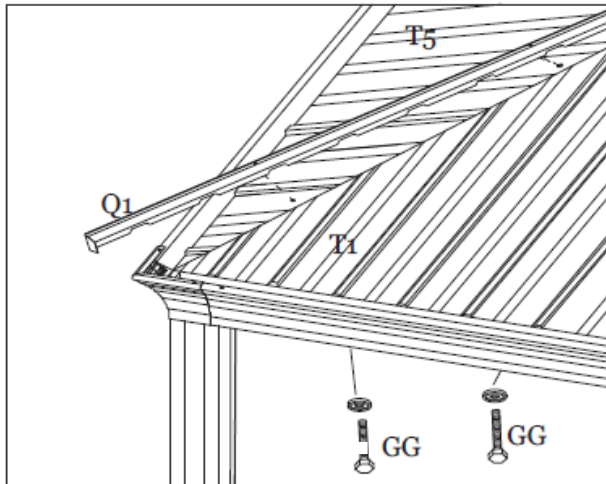
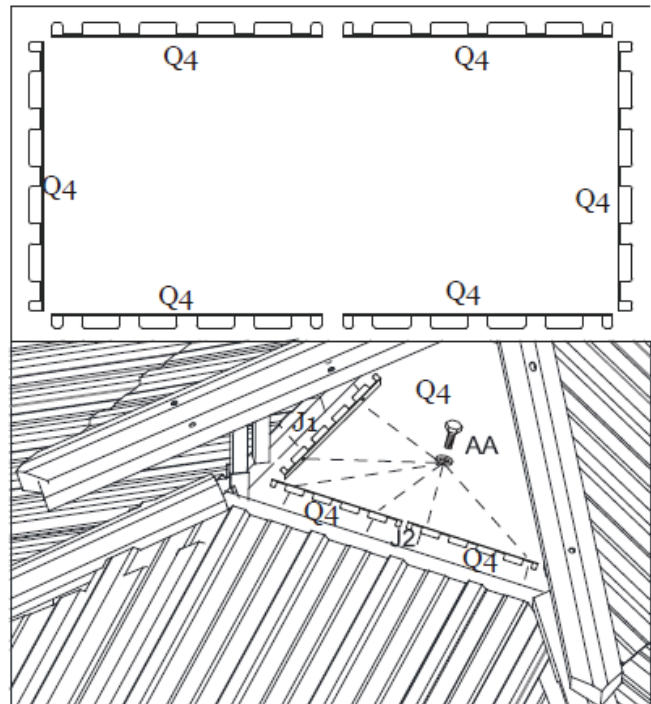
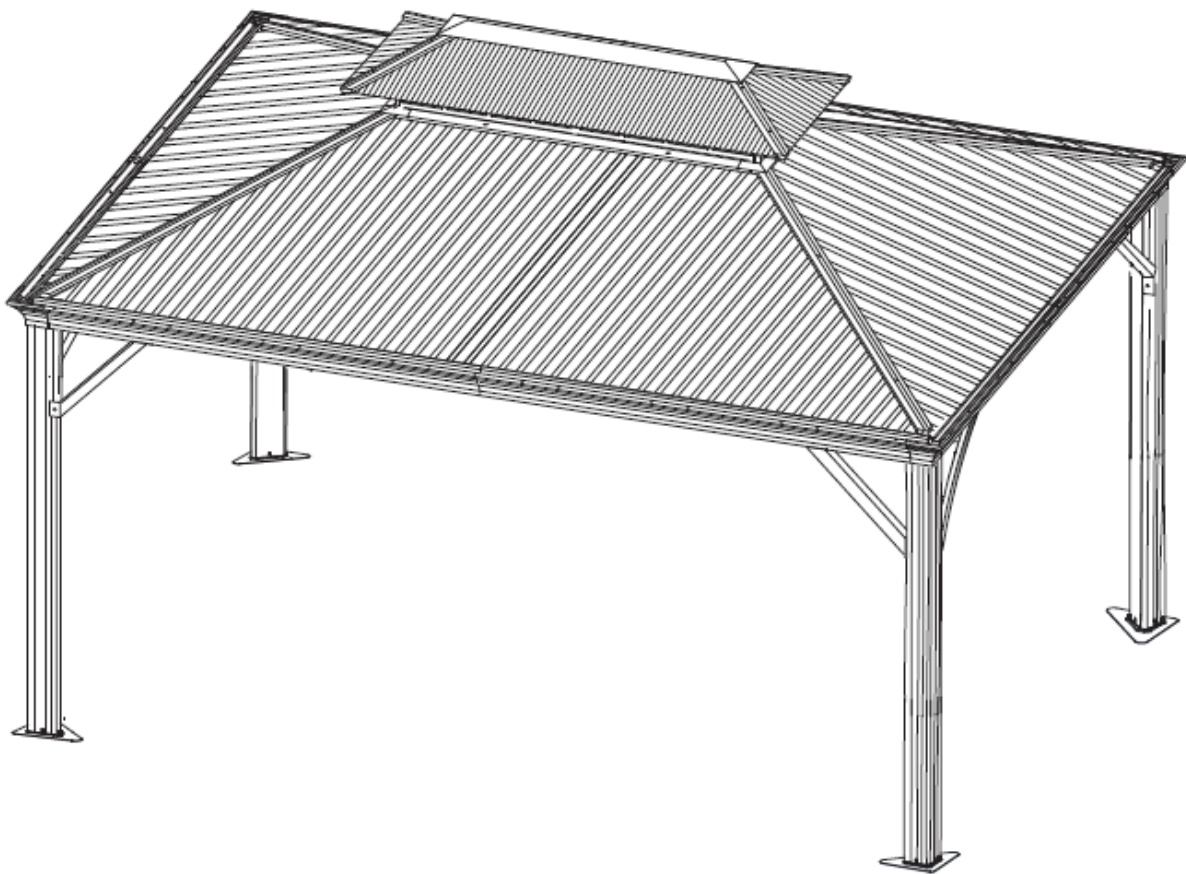

Figure 14-1
Figure 14-2
Figure 14-3
Step 14A: Attach the Main Roof Corner Trim (Q1) to the Main Roof Corner Support (H) using Bolt (GG). Repeat for all corners. See Figure 14-1 and Figure 14-3.
Step 14B: Attach the Main Roof Center Frame Trim (Q4) to the Main Roof Center Frame (J1 and J2) using Bolts (AA). Repeat for all sides. **Tighten all Bolts.** See Figure 14-2 and Figure 14-3.